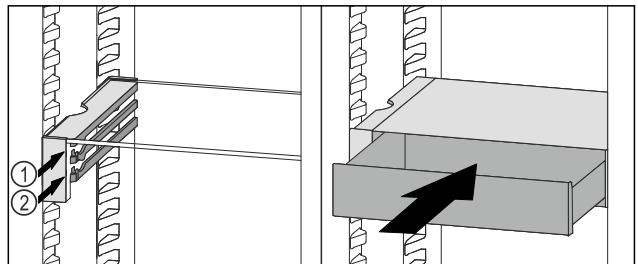

Fig. 94
- ▶ Place the VarioSafe drawer behind the stoppers on desired rib Fig. 94 (1) or Fig. 94 (2).